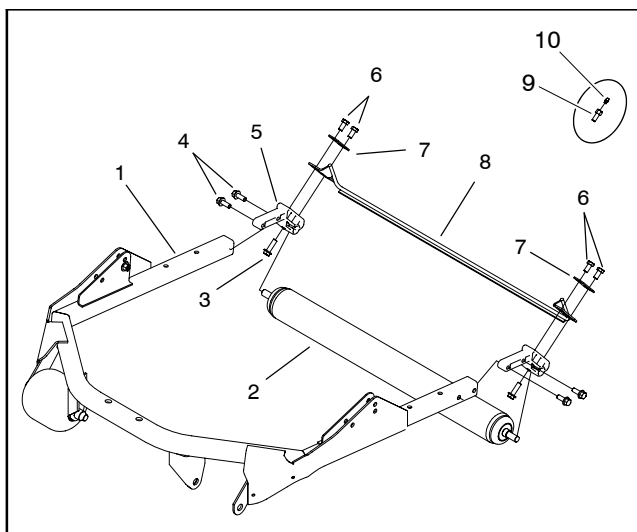

Figure 8
Removal (Fig. 8)
Installation (Fig. 8)
IMPORTANT: If roller design includes grease fittings in roller fasteners (items 9 and 10 in Fig. 8), make sure the grease groove in each roller mount aligns with the grease hole in each end of the roller shaft. To help align the groove and hole, there is also an alignment mark on one end of the roller shaft.